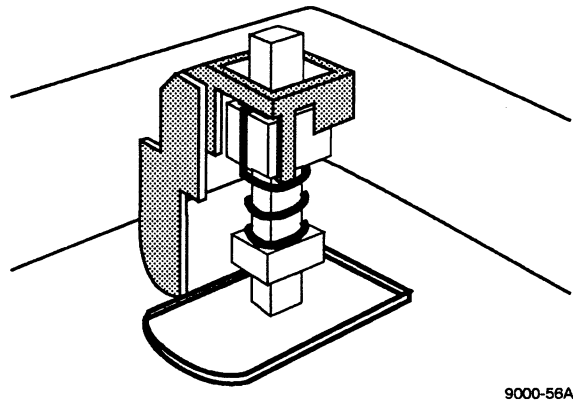

Figure 5-18. Correct Actuator Orientation
4. Insert the new actuator. Figure 5-18 for correct orientation.